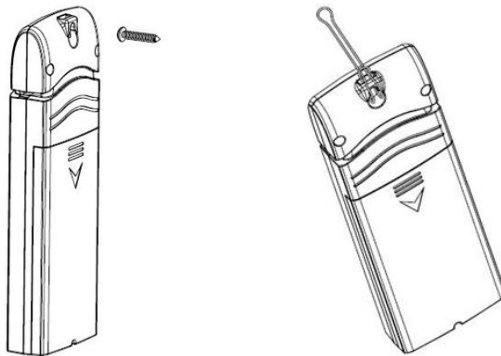

Figure 16: Indoor sensor mounting
- Use a screw or nail to affix the remote sensor to the wall, as shown on the left side of Figure 16, or
- Hang the remote sensor using a string, as shown in right side of Figure 16